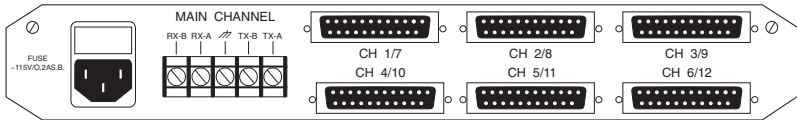

Figure 3-3. Rear Panel.
1. Unscrew the two upper cover screws located at the back of the unit (refer to **Figure 3-3**).
In the following discussions, refer to **Figure 3-3** (rear panel).